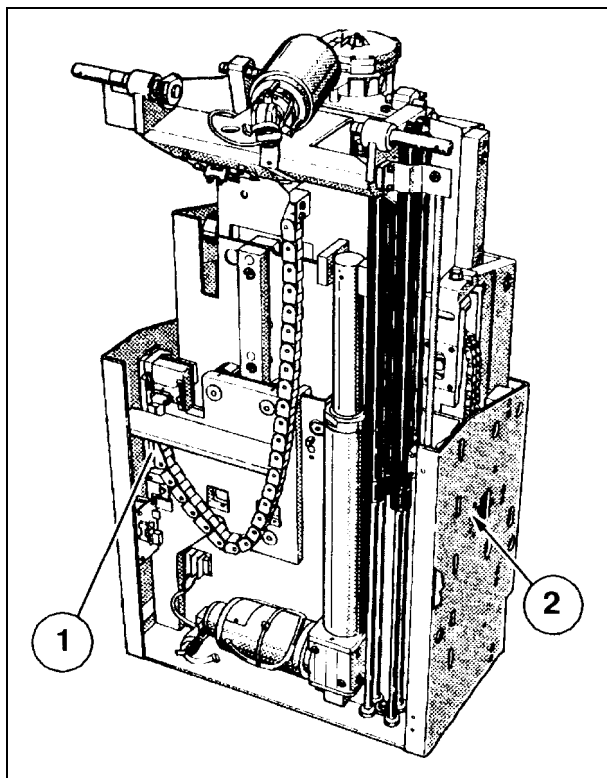
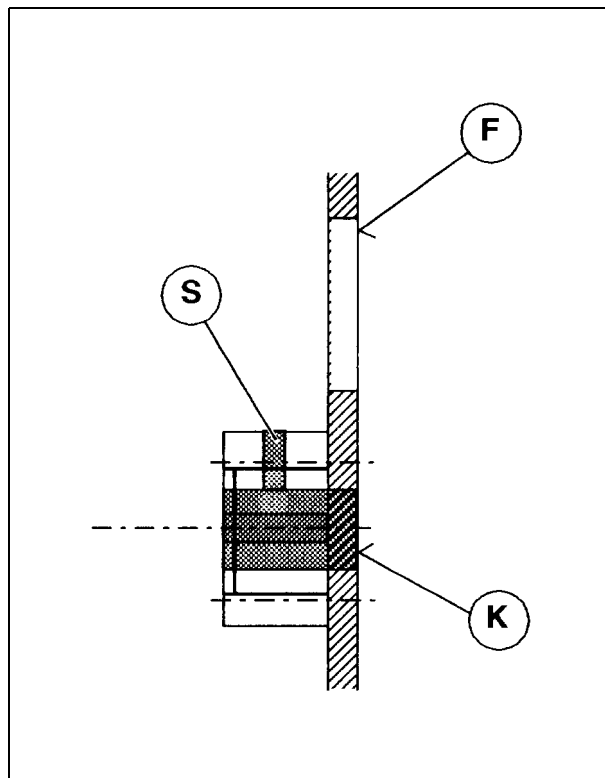

Fig. 1
Fig. 2
- Slide the actuator cams (1/Fig. 1) of safety switches s21 and s22 by hand (when activating the switch, the K1 contactor in M20 drops) At the same time, check that the actuator cam moves easily.
- Check the chain coupler position on the outside of the lifting base (2/Fig. 1/2); the bolt for the chain coupler (K1) must firmly connect with the outer surface of the lifting base (F) (Fig. 2).
- Check that the safety screw (S) is secured tightly.